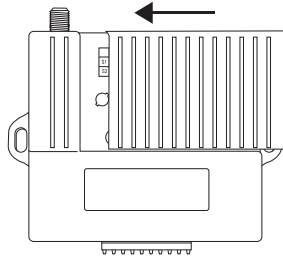

Fig. 3
Step 10. Close the access door on the receiver. See Fig. 3.